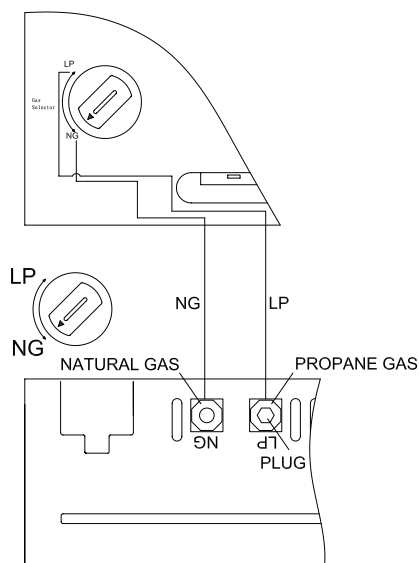

Figure 15
2. For NATURAL GAS, press knob using a flat screw driver with a blade with thickness of a quarter and turn knob counterclockwise  until the knob locks into the NG position (see Figure 15). Selection valve must be locked in the NG position. Do not operate heater between locked positions!